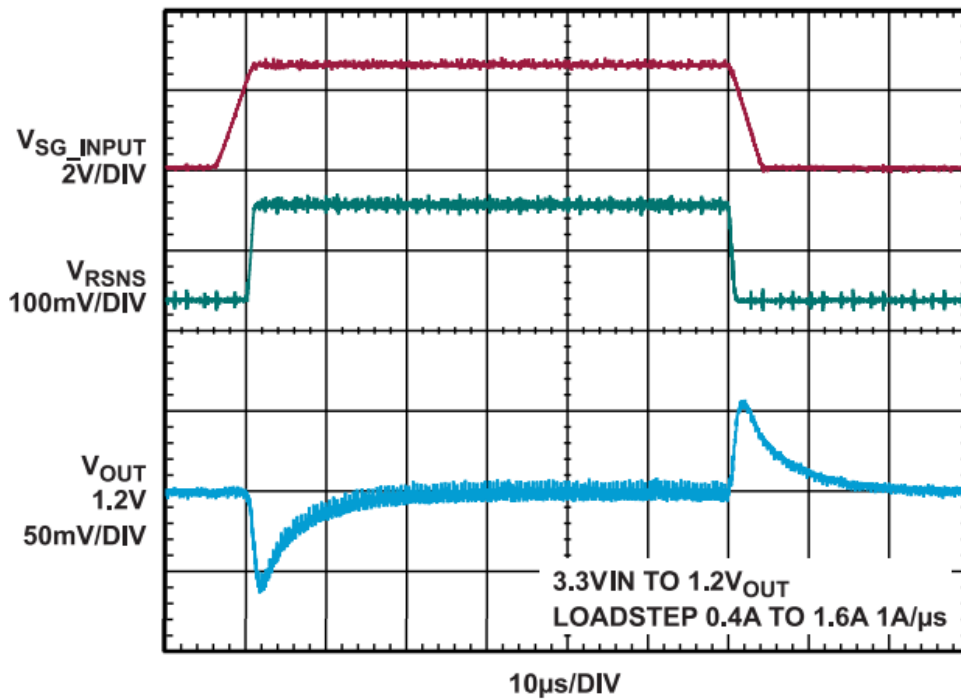

Figure 9. Load Transient Response Forced Continuous Mode
- For more details, see **Figure 9** and the optional transient response circuit shown in **Figure 6**.  $I_{OUT} = V_{RSNS}/100\text{m}\Omega$  (1)